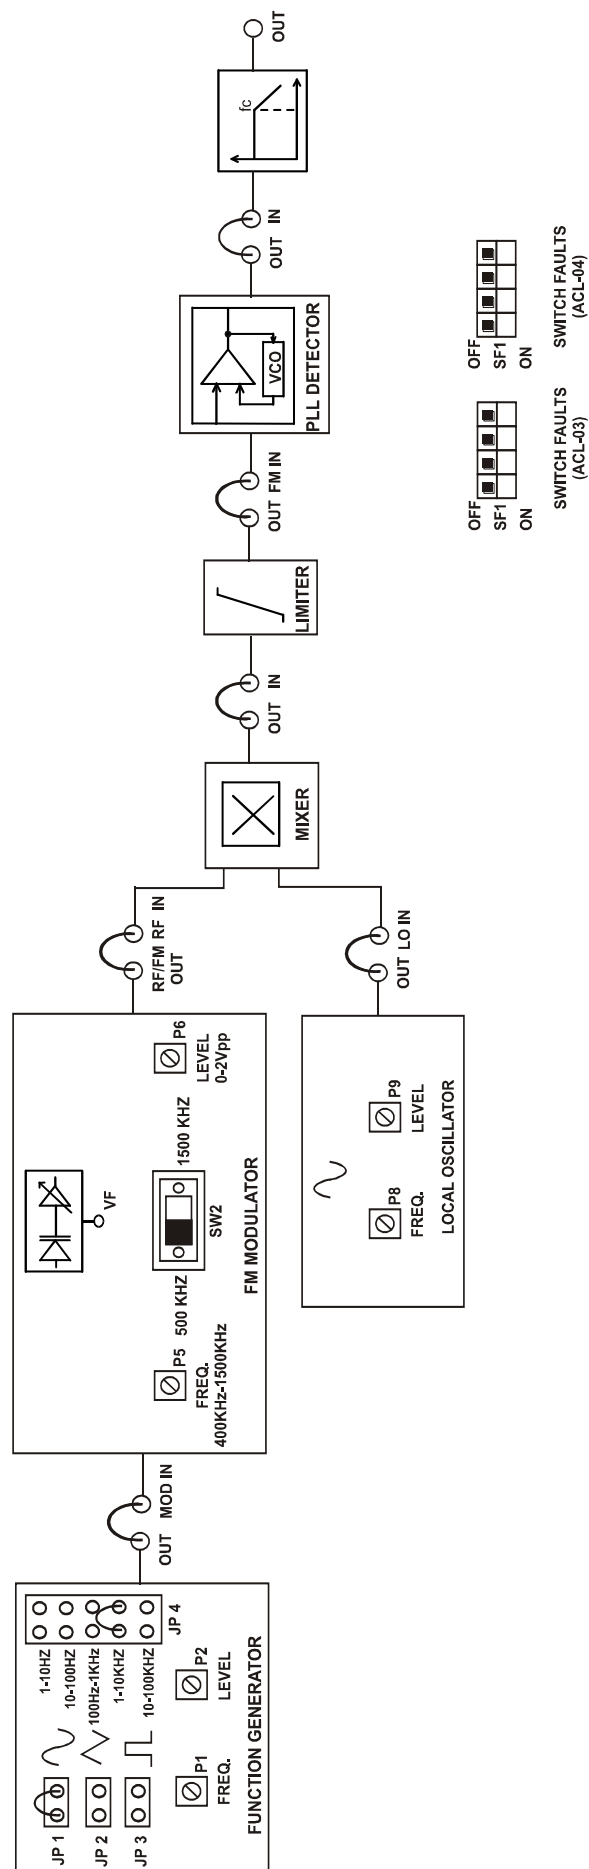

FIG.3.13 BLOCK DIAGRAM FOR PHASE LOCKED LOOP DETECTOR
- Refer to the FIG. 3.13 & Carry out the following connections.